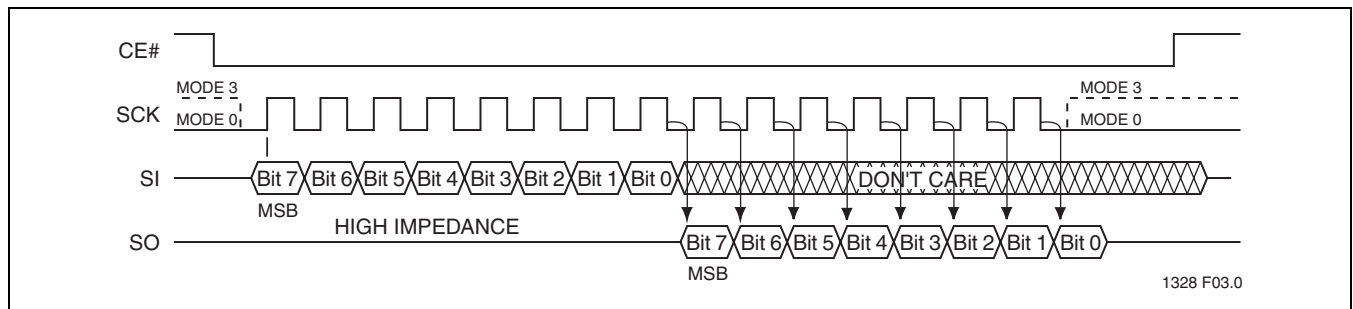

FIGURE 3: SPI Protocol
The SST25WF512/010/020/040 support both Mode 0 (0,0) and Mode 3 (1,1) of SPI bus operations. The difference between the two modes, as shown in Figure 3, is the state of the SCK signal when the bus master is in Stand-by mode and no data is being transferred. The SCK signal is low for Mode 0 and SCK signal is high for Mode 3. For both modes, the Serial Data In (SI) is sampled at the rising edge of the SCK clock signal and the Serial Data Output (SO) is driven after the falling edge of the SCK clock signal.